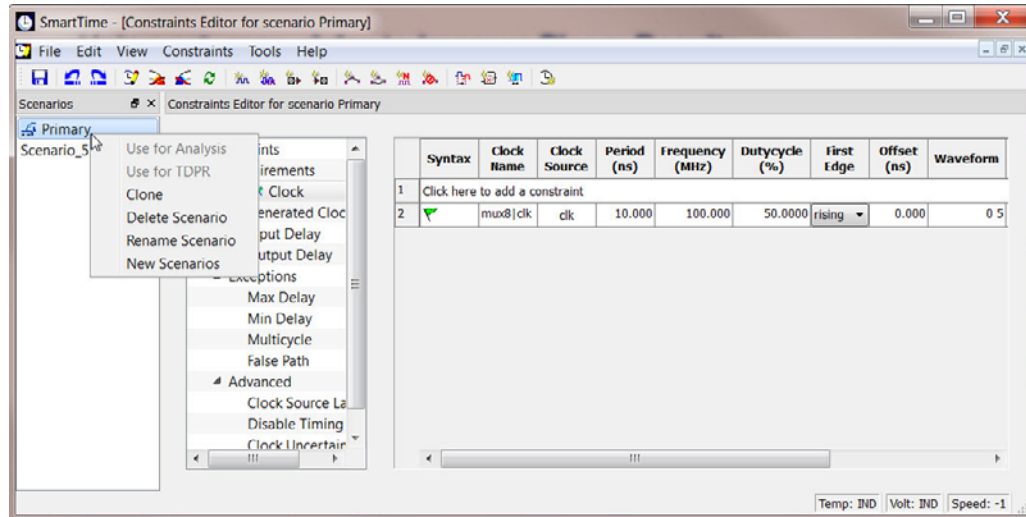

Figure 2-10 • Timing Scenario Clones
1. Clone the existing timing constraints scenario in SmartTime. From the Constraint Editor, right click on Primary scenario and select Clone (Figure 2-10).